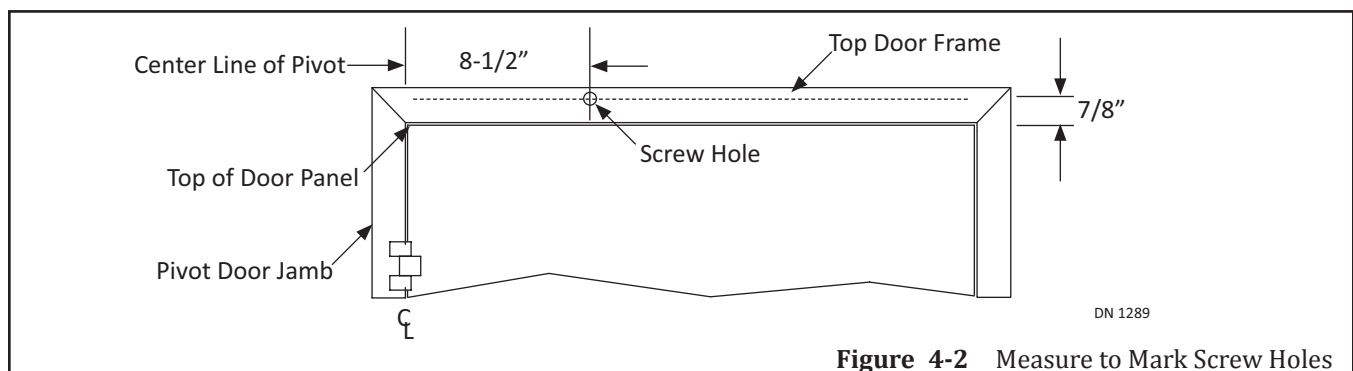

Figure 4-2 Measure to Mark Screw Holes
1. From the top of the Door, measure $7/8$ inches up and mark a horizontal line across the Door Frame. Please see Figure 4-2.